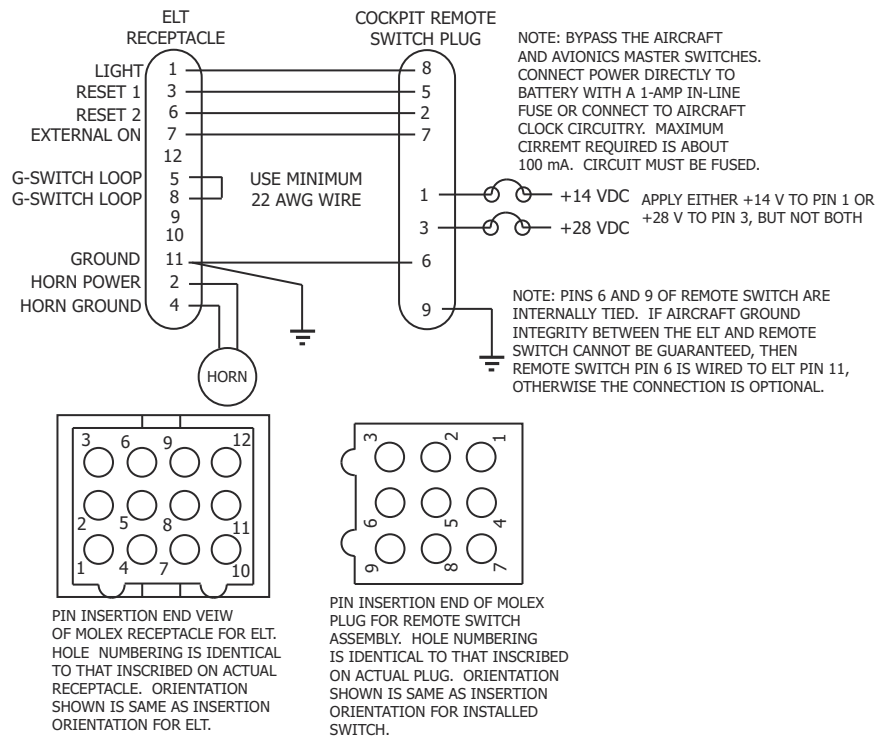
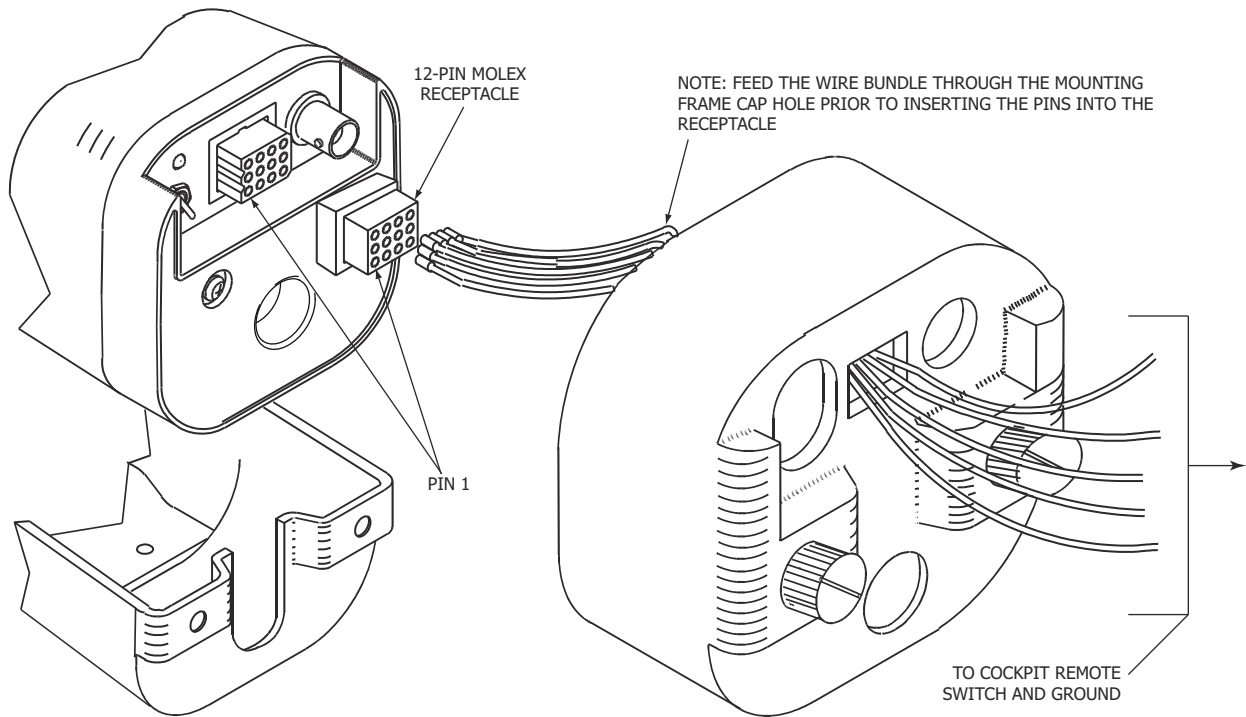

Figure 21. Remote Switch Harness Wiring Diagram
Figure 22. Remote Switch Harness Arrangement at ELT End
- (2) Fabricate a 5-wire harness long enough to reach from the ELT to the cockpit remote switch, allowing enough slack to provide a drip loop at the ELT end and a service loop at the cockpit remote switch end. See "Figure 21. Remote Switch Harness Wiring Diagram", on page 67.
- (3) Three additional wires are required. See "Figure 21. Remote Switch Harness Wiring Diagram", on page 67.
- (1) Feed the harness wires on the ELT end through the mounting frame cap assembly (452-5052). See "Figure 22. Remote Switch Harness Arrangement at ELT End", on page 69.
- (2) Feed the buzzer wires on the ELT end through the mounting frame cap.
- (3) Fabricate a short jumper wire, approximately 1.5 in. (38 mm) long.
- (4) Insert the wiring pins in the harness ELT 151-5012 Molex 12-pin receptacle. See "Figure 21. Remote Switch Harness Wiring Diagram", on page 67.
- (1) Insert the wiring pins in the 151-5009 Molex 9-pin cockpit remote switch plug. See "Figure 21. Remote Switch Harness Wiring Diagram", on page 67.
- (1) Connect the ground wires to the airframe in accordance with the aircraft manufacturer's written instructions or as described in AC 43.13-1, Chapter 11, § 15. See "Figure 21. Remote Switch Harness Wiring Diagram", on page 67.